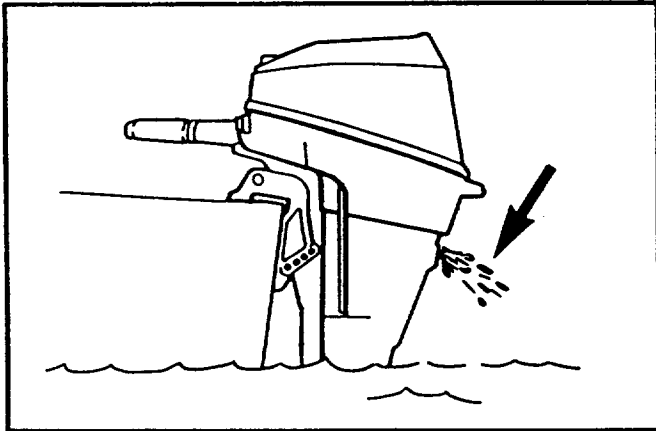

FIGURE 18
- Check that a spray of water is coming out of the idle relief holes when the motor is idling. (Figure 18)